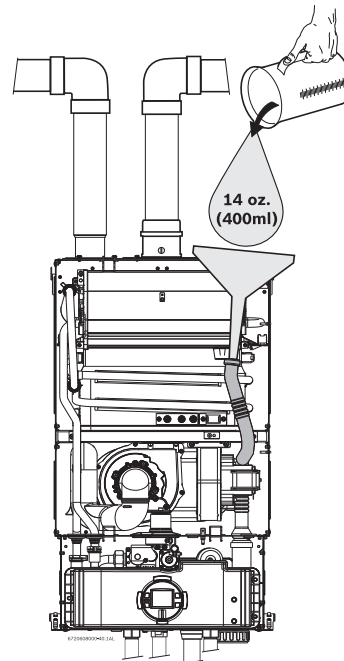

Fig. 37 Filling the condensate trap after installation
- Fill the condensate trap by pouring approx.14 oz. (400ml) of water into the top of the drain tube. To avoid damage to the appliance use a funnel in this operation, see Fig. 37, page 31.